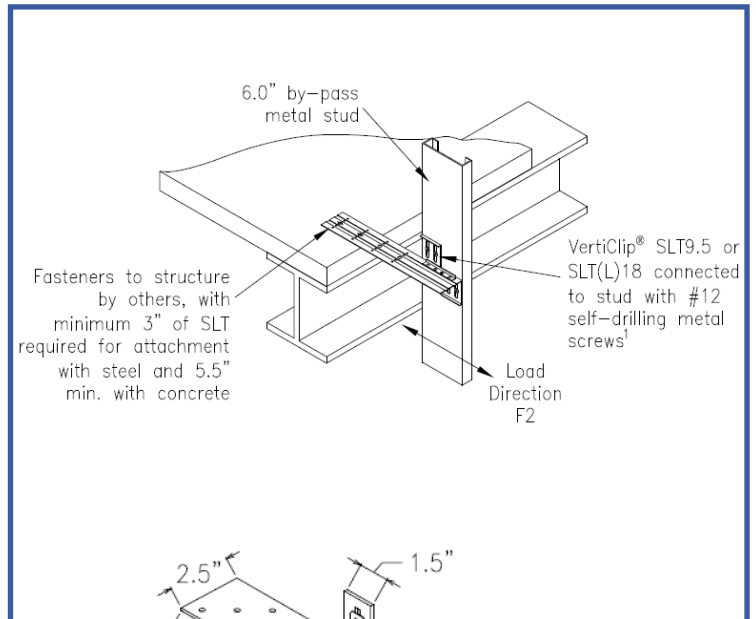

Figure 4 – VertiClip® SLT-9.5 and SLT(L)18
3.1.5 VertiClip® SLT: VertiClip SLT-9.5 and SLT(L)-18 are formed steel plates having one upward and one downward vertical leg at the end of the connectors that attach to the curtain wall framing members. The minimum base-metal thickness of the plates is 0.0966 inch (2.5 mm). Each leg of the SLT-9.5 is $1\frac{1}{2}$ inches (38 mm) wide by $2\frac{1}{4}$ inches (57 mm) high, and has one vertical slot measuring $\frac{5}{16}$ inch (8 mm) wide by $1\frac{3}{8}$ inches (35 mm) long, allowing for a maximum 1-inch (25.4 mm) vertical movement of the framing members. Each leg of the SLT(L)-18 is $2\frac{13}{16}$ inches (71 mm) wide by $3\frac{1}{8}$ inches (79 mm) high, and has two vertical slots measuring $\frac{3}{8}$ inch (9.5 mm) wide by $2\frac{1}{4}$ inches (57 mm) long, allowing for a maximum of $1\frac{3}{4}$ inches (47.6 mm) of vertical movement between exterior wall elements and the primary structure. The bend in the steel plate at the vertical legs of the SLT(L)-18 is reinforced with two $\frac{3}{8}$ -inch-by- $\frac{3}{8}$ -inch (9.5 mm by 15.9 mm) L-shaped steel angles that are factory-attached with four $\frac{3}{16}$ -inch-diameter (4.8 mm) rivets. The angle reinforcement is $4\frac{3}{8}$ inches (111 mm) long and has a minimum base-metal thickness of 0.0677 inch (1.7 mm). Refer to Figure 4 for overall dimensions of the VertiClip SLT-9.5 and SLT(L)-18 connectors and a typical installation detail.